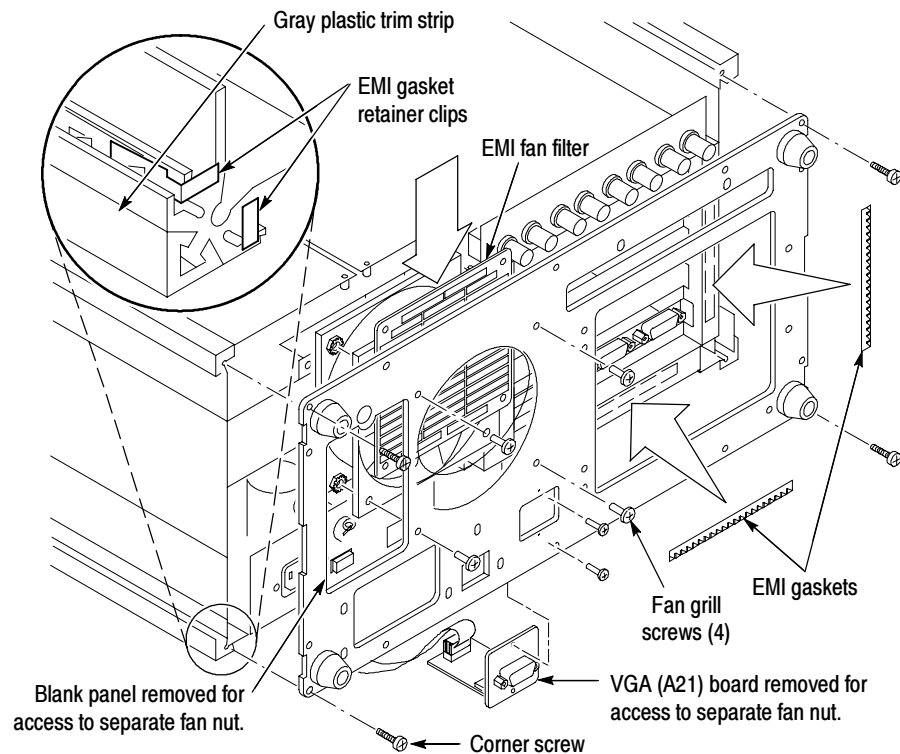

Figure 12: EMI gaskets and EMI fan filter installation (VM700A with VMTB/VMTX)
3. Loosen the four corner screws and pull the rear panel onto the screws, leaning the rear panel away just enough to slide the two EMI gaskets (shown in Figure 12) in place. Do not place excessive strain on the fan cable.
NOTE. Note the position of the two EMI gasket retainer clips (inside the rails) at each corner of the chassis (see the detail inset illustration in Figure 12). The retainer clips must be in place when the rear panel is reinstalled.
5. Attach the EMI gaskets behind the rear panel shown in Figure 12.
NOTE. Note the position of the two EMI gasket retainer clips at each corner of the chassis (see the detail inset illustration in Figure 12 on page 30). The clips must be in place when the new rear panel is installed. Replacement retainer clips are provided in the spare parts bag in case the originals are damaged or lost.
NOTE. The trim strips on the chassis edges (see Figure 12) may slide back as you position the video measurement set on the work surface. This is especially true of the trim strips in contact with the work surface. Make sure each of the trim strips is fully forward as you tighten the corner screws of the rear panel.